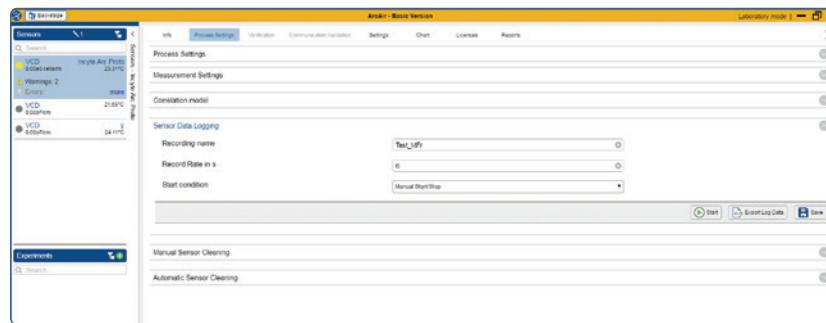

Figure 23: Sensor Data Recording Setting
- 5) Press «Export Log Data» and wait until the data is downloaded from the sensor (may take upto 12 minutes, if memory is full (figure 23)).